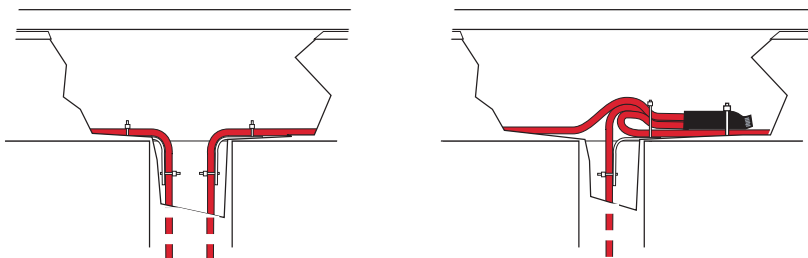
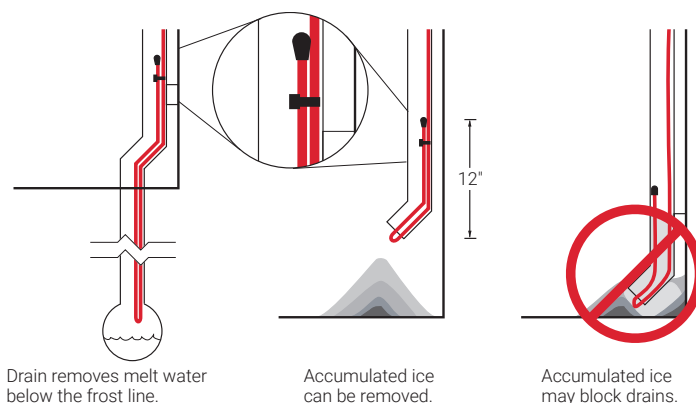

Fig. 16 Heating cable at top of downspout
Fig. 17 Heating cable at bottom of downspout
- External downspouts and scuppers must be treated carefully. A path must be provided for the valley/perimeter heating cable to the point of discharge (see Fig. 17 on page 109).
Ice may form in downspouts and prevent melt water from escaping from the roof. To maintain a continuous path for melt water to run off, run the heating cable inside the downspout to the end as shown in Fig. 16 and Fig. 17 below. Follow the appropriate attachment recommendations in "Step 6 Select attachment accessories and method" on page 115. Additional heating cable may be needed for the roof surface, gutters, and valleys.